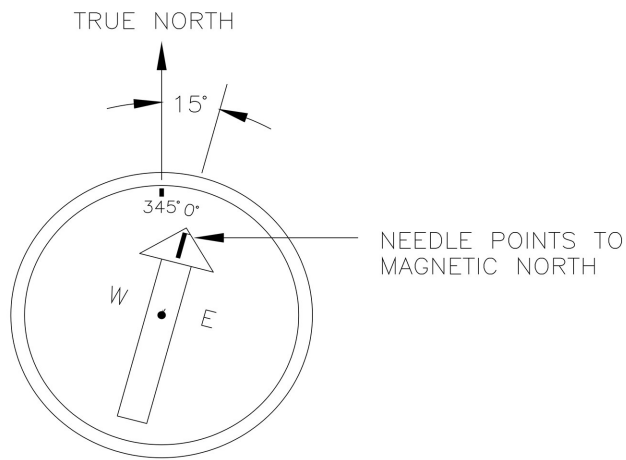
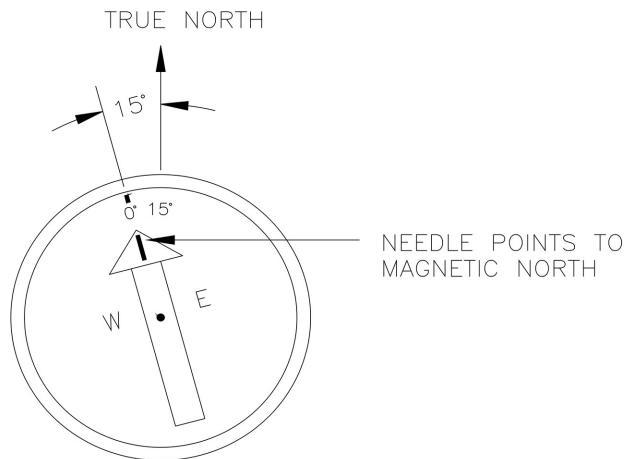

Figure A-2. Declination angles east of true north are subtracted from 360 to get true north
Figure A-3. Declination angles west of true north are subtracted from 0 to get true north
Declination angles east of true north are reported as positive values and are subtracted from 360 (0) degrees to get true north as shown in Figure A-2 (p. 92). Declination angles west of true north are reported as negative values and are subtracted from 0 (360) degrees to get true north as shown in Figure A-3 (p. 92). Note that when a negative number is subtracted from a positive number, the resulting arithmetic operation is addition.